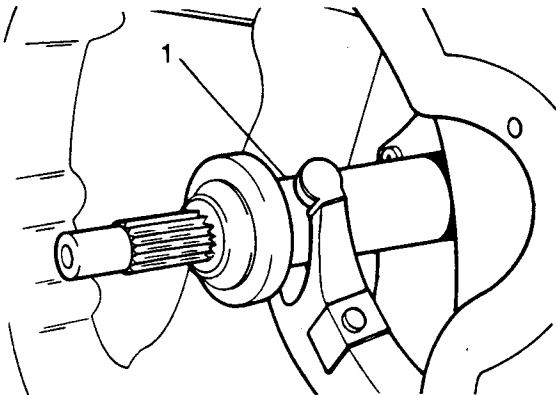

Fig H1.19
- (2) Refer to Fig H1.19. Remove the plastic clip (1) to separate the withdrawal bearing from the clutch mechanism.